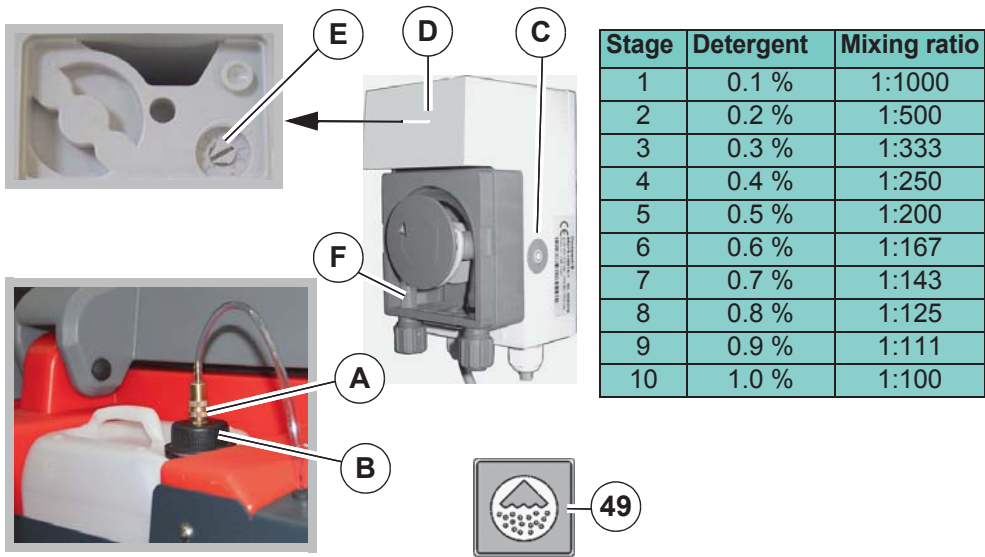

Fig. 21:
1. Release quick coupler **Fig. 21-A** at canister lid by pulling the lower ring of the coupling upwards. Unscrew lid from filled canister. Screw on lid with integrated hose **Fig. 21-B** and fit quick coupling with hose.
4. Press the quick ventilation switch **Fig. 21-C** at the dosing pump until detergent is present at the non-return valve.
1. Remove the grey cover **Fig. 21-D** at the dosing pump.
Set the rotary knob **Fig. 21-E** between setting 1 and setting 2, see table.
Check the hose section **Fig. 21-F** in the hose pump (length approx. 23 mm) and replace if necessary.